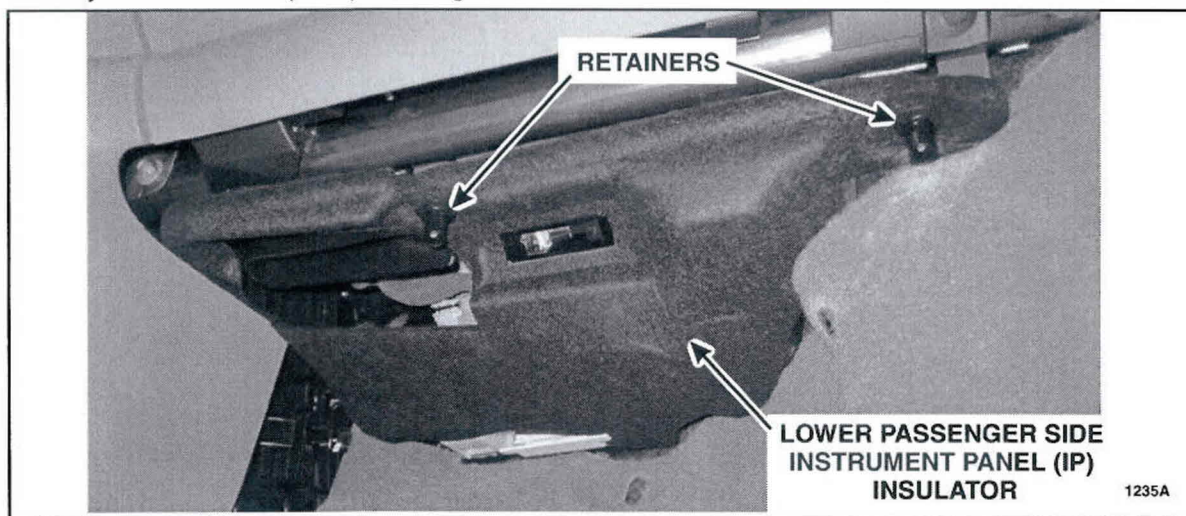

FIGURE 5
1. Remove the two retainers and the lower passenger side Instrument Panel (IP) insulator, to access the Body Control Module (BCM). See Figure 5.